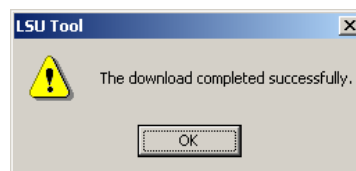

Figure 257: Successful Firmware Upgrade
3. If the upgrade is successful, the following window appears (Figure 257).